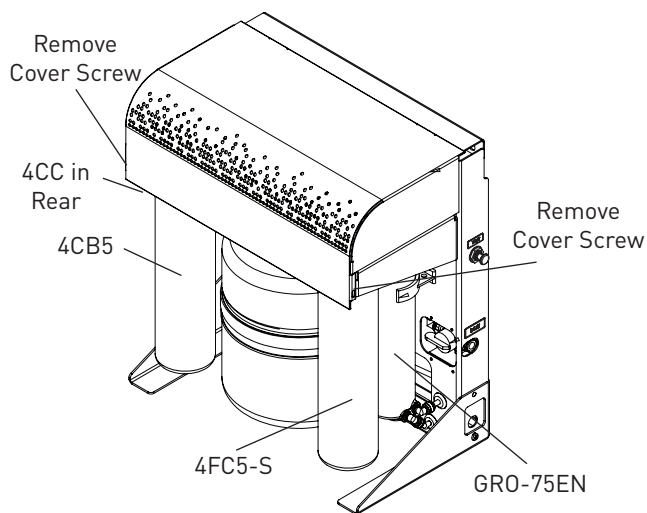

Figure 4
The cover is removed for the installation of the cartridges and flushing of the Conserv 75E System. Remove the two (2) screws (Figure 4) and lift the cover off.